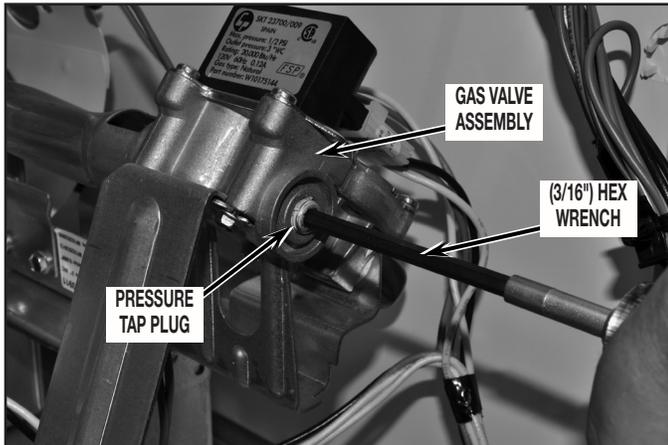

FIGURE 1
1. Remove pressure tap plug from valve body using a 3/16" hex wrench. See *Figure 1*.